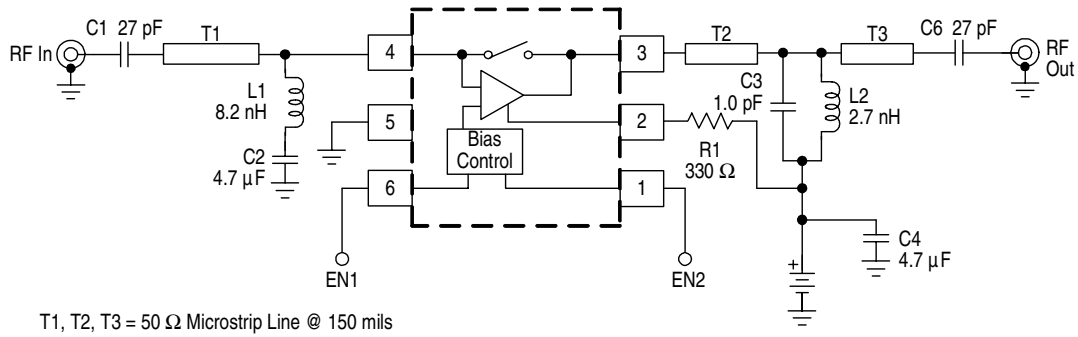

Figure 2. Typical 1.9 and 2.4 GHz LNA Application Schematic
In the design of the external matching network, conjugate match condition does not necessarily provide the best noise figure performance. Balancing between noise figure, gain, and intercept point is the major design consideration. Typical circuits are provided in Figures 2 and 3 for 1.9 GHz, 2.4 GHz and 900 MHz applications.
In Figure 2, it shows the typical application circuit at 1.9 and 2.4 GHz. The noise figure, input intercept point, gain, and return losses are optimized. L2 and C2 act as a low frequency trap to improve the input intercept point. The noise figure measured on this board is 1.4 dB (in Low IP3 mode) at 1.9 GHz, including the external components, connectors, and PC board. The input third order intercept point is 10 dBm (in High IP3 mode).
1.9 GHz (See Figure 2)
2.4 GHz (See Figure 2)